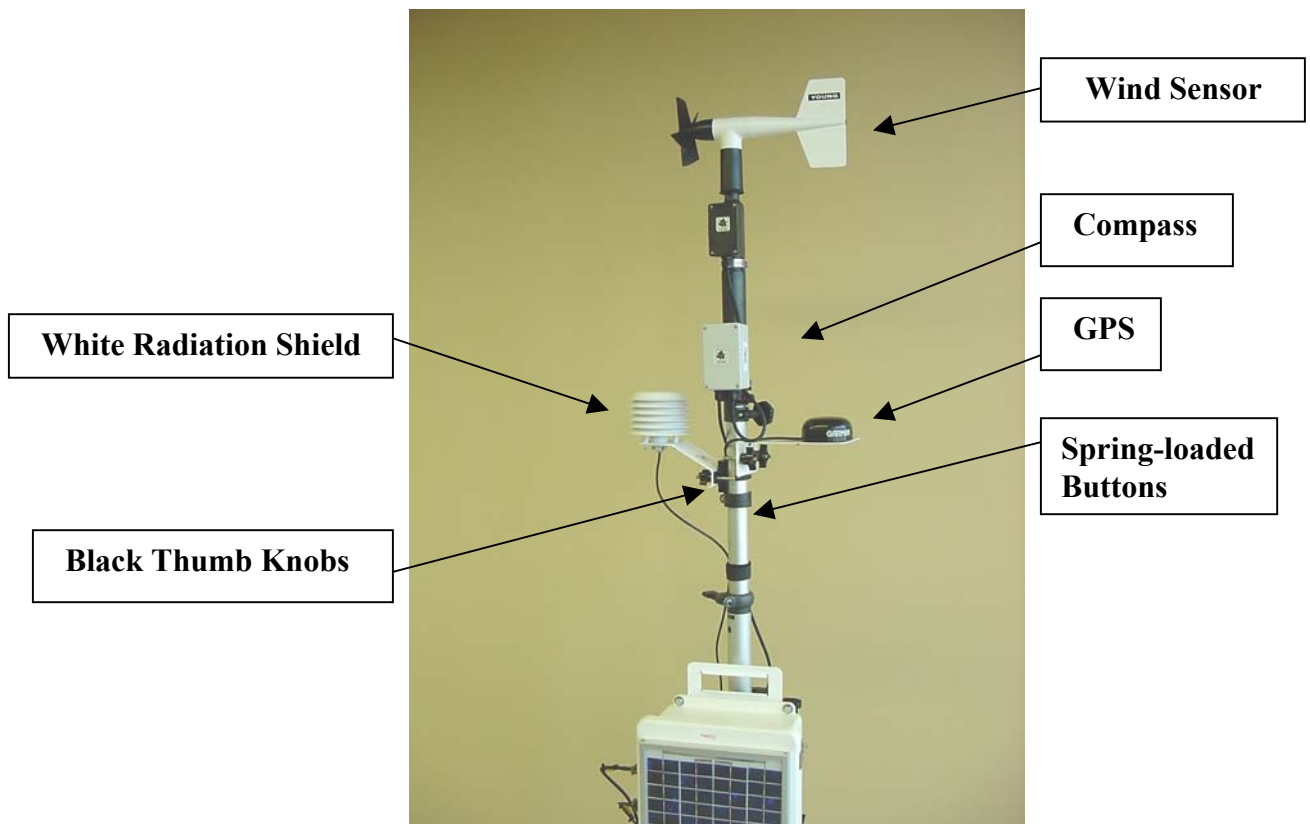

Figure 2
Step 4 – Remove the GPS unit. Slide it over the tripod mast and tighten it just above the Air Temperature probe (see Figure 2)
Step 5 – Remove the Wind Speed and Direction assembly. Slide its mounting post into the top of the main tripod mast until both buttons click into its lowest position. Both front and back spring-loaded buttons should protrude out of the lowest main mast mounting holes. There is a black mast coupler attached to this assembly which needs to be slid over the main mast, when it is in place tighten the knob of the coupler. **Note: Do not remove the wind sensor from the electronic compass, which is mounted below it on the same post.** The alignment of these two sensors is critical in obtaining the correct wind direction. (See Figure2)